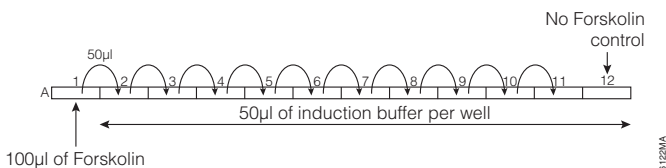

Figure 7. Dilution scheme for the agonist forskolin.
4. Perform a serial twofold dilution of forskolin by transferring 50 μ l from well A1 to well A2 with a pipette, pipetting to mix. Transfer 50 μ l to well A3; mix. Repeat for wells A4 through A11. See Figure 7. Discard the extra 50 μ l from well A11. Do not add forskolin to the no-forskolin control reactions in well A12.